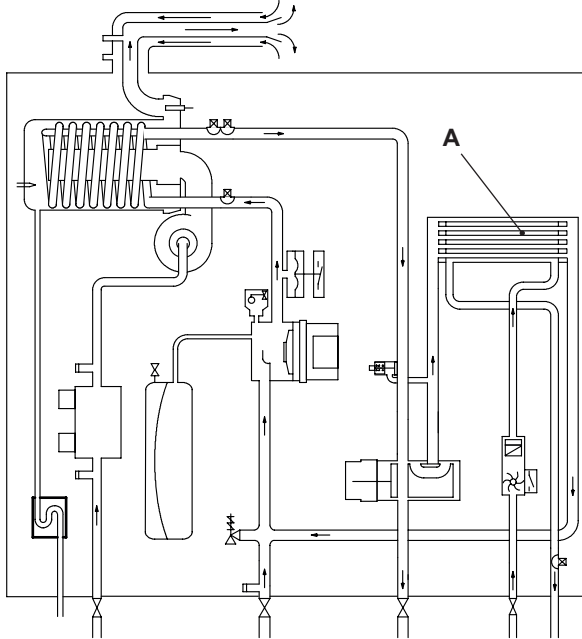
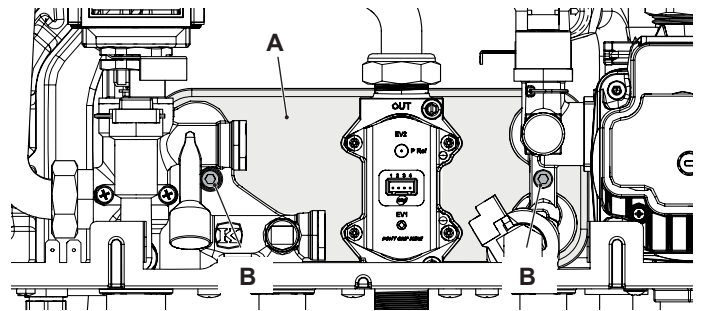

Figure 6.1
Figure 6.3
The D.H.W. heat exchanger "A" in Figure 6.1 and Figure 6.3 allows the instantaneous transfer of heat from the primary hydraulic circuit to the water destined for D.H.W. use.
- 5 Completely unscrew the Allen key screws "B" in Figure 6.3 which hold the exchanger to the plastic groups.